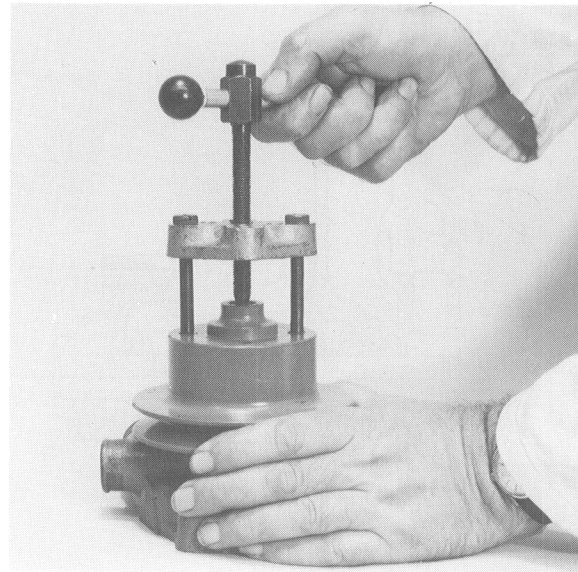

Fig. N3
**To dismantle water pump (see fig. N3)**
1. Remove water pump pulley by the use of a suitable tool (see fig. N3). The holes tapped in the pulley can be used for this purpose.
2. Press water pump shaft (2) complete with bearings and impeller (7) out through rear of pump body (1).
4. Remove ceramic counterface (6), seal (5) and thrower where separate, (4) from water pump shaft.